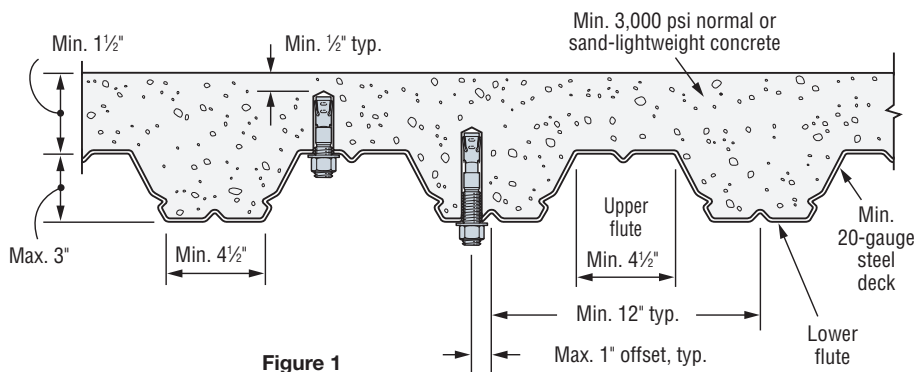

Figure 1
8. Installation must comply with Figure 1.
4. Installation must comply with Figure 1.